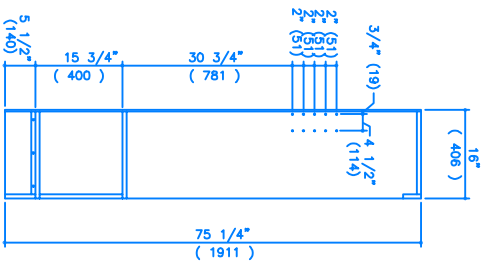

FIGURE 4
- 2) Lay out both pieces A and mark holes as shown (Fig. 4). Using the drill guide, (Illustration 1) drill the twenty 1/4" holes to depth of 1/2". Mark the positions of L and Q, remembering not to cover up the rabbet in A. Glue and nail on piece L with 1" finishing nails. Pre-drill pieces Q with three 1/8" nails each and screw to A with 1 1/4" #8 flathead screws. Glue and nail K to C with 1" finishing nails, nailing through K. Glue and nail bottom B to H, nailing through B. Stand the two A pieces on their front edge, glue and nail in the CR assembly with 1 1/2" finishing nails, nailing through the pieces A, then glue and nail the 1/4" rabbet on the top of A. Place the BH between piece Q and L, glue and nail into BH through A's with 1 1/2" finishing nails. Glue and nail the middle piece B to the top of piece L using 1 1/2" finishing nails, nailing through the piece B into the top of the piece L. Lay a bead of glue in the rabbet of pieces A and piece in piece T. Nail on piece T by nailing through T and into pieces A, C and B with 1" finishing nails. Glue and clamp D to the middle piece B with 1" finishing nails, ensuring the holes line up. (Fig. 8) Wipe off excess glue.